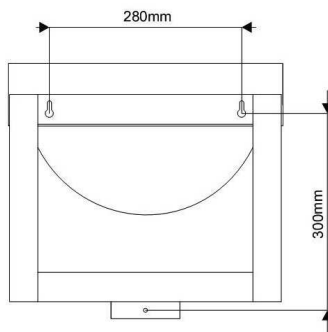

Fig. 2
- Leave a space of 280 mm between the holes, as shown in figure 2.